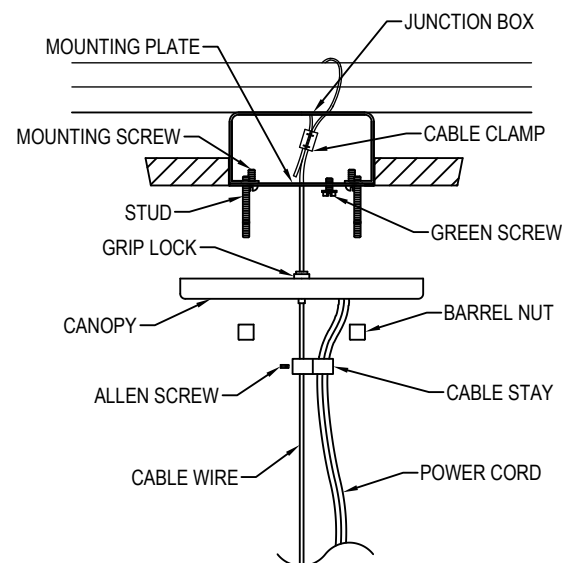

FIGURE-1
1. Attach the mounting plate to the junction box using the mounting screws. The green screw should face the floor. Back out the screws 1/2 turn to allow the ring to rotate. Attach the safety cable to the structure or brace. See figure-1.